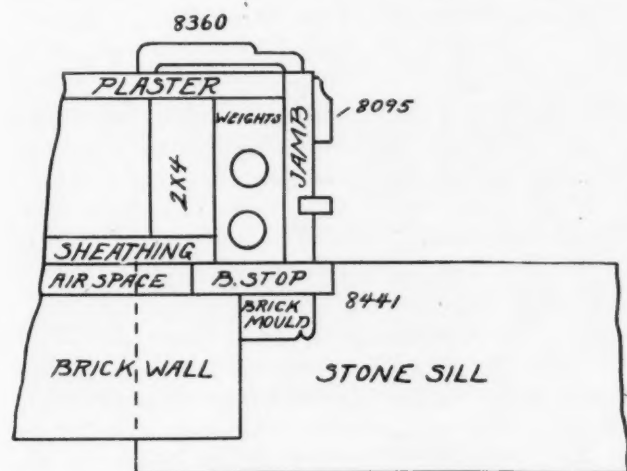
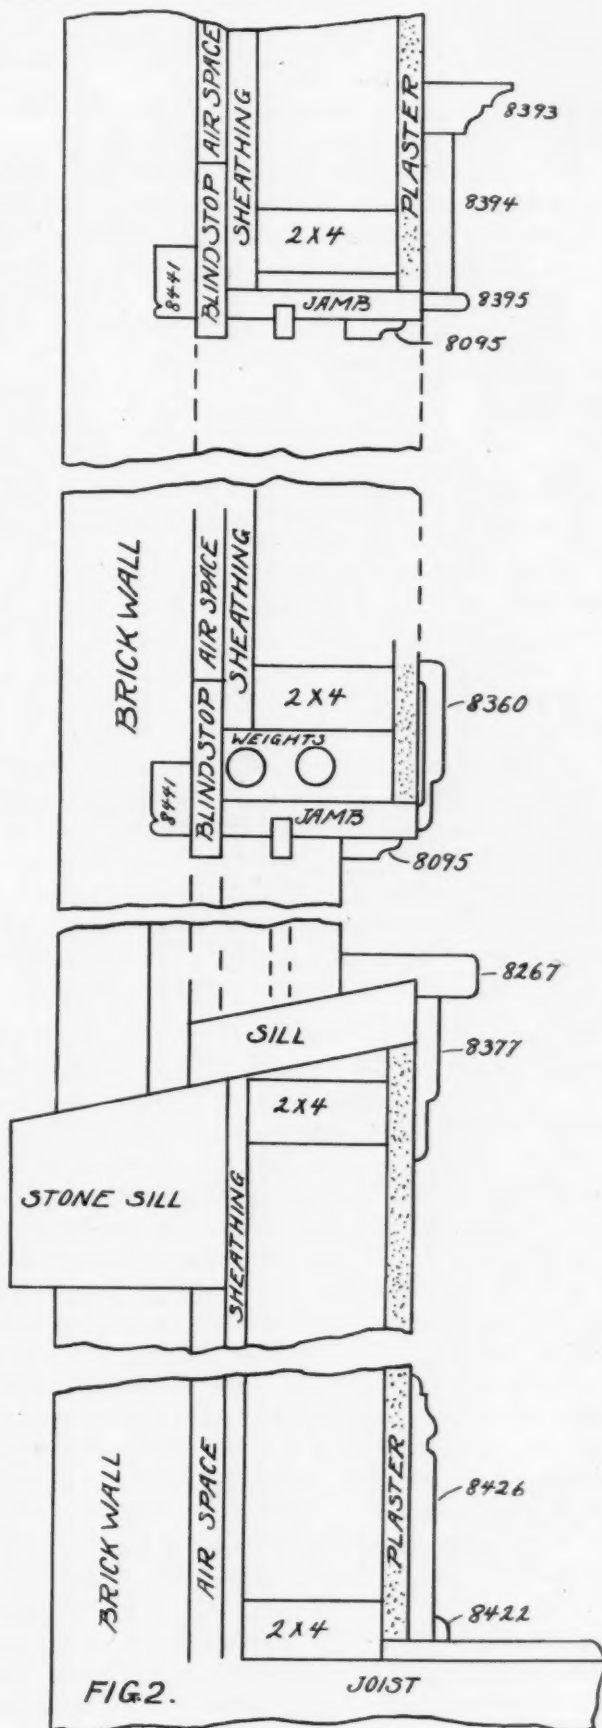

FIG. 1.
FIG. 2.
**F**IGURE 1 shows a horizontal section through a frame building veneered with a four-inch brick wall. Fig. 2 shows a vertical section. Referring to Fig. 1 No. 8441 is the brick mold which is nailed to a wide blind stop. The blind stop being wide, it laps over on the sheathing when the frame is set and the space between the sheathing and the brick forms a dead air space and makes the very best kind of construction for a brick veneered job. The brick should be anchored to the frame by using either metal wall ties made especially for this purpose, or by using good sized spikes driven into the frame work and projecting out half-way into the mortar joint when the brick are laid up. The spikes make just as good a bond for this kind of work as any and are much cheaper. They should be put as often as one every sixteen inches, every sixth course of brick.
Fig. 2 shows an end section of the stone sill. The sill should be just wide enough to set snug against the sheathing. This will give the wood sill one inch